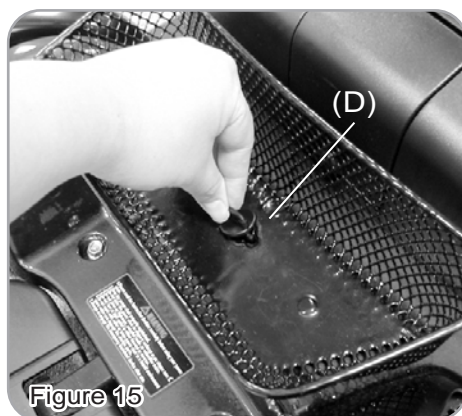

Figure 15
Detach the chair frame by holding the Seat Post (G) with one hand, the other hand pushing the Release Lever to the rear of the chair. Lift the seat post to separate the Front Frame Assembly (H) from the Rear Frame Assembly (I). (See Fig. 15)